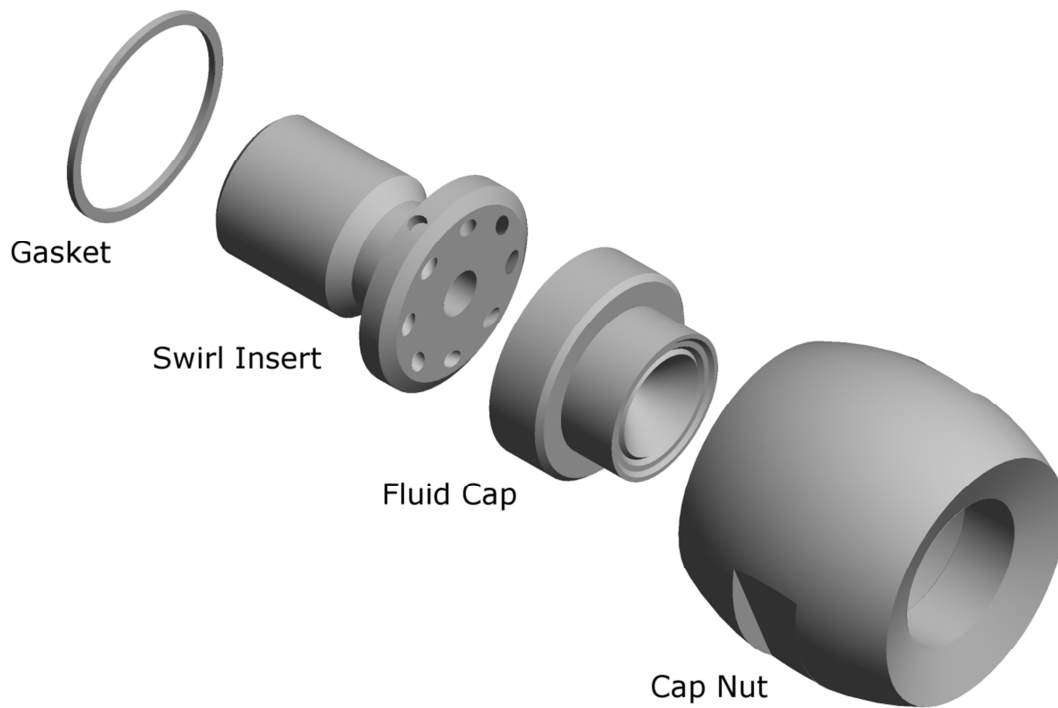

Figure 3: Exploded View 2" Nozzle Assembly
- Figure 3: Exploded View 2" Nozzle Assembly 7
- Swirl Insert: For 2" assemblies the swirl and insert are made as one piece. (See Figure 3)